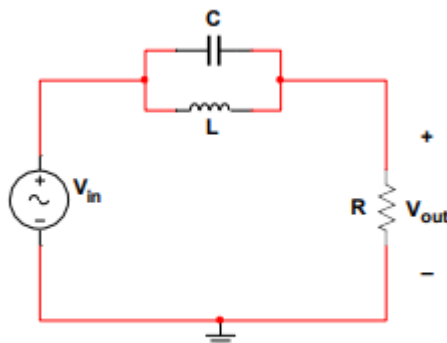

Figure 4.1 – Parallel Resonant Circuit
1. **Build** the circuit in **Figure 4.1** on a breadboard using the following components: